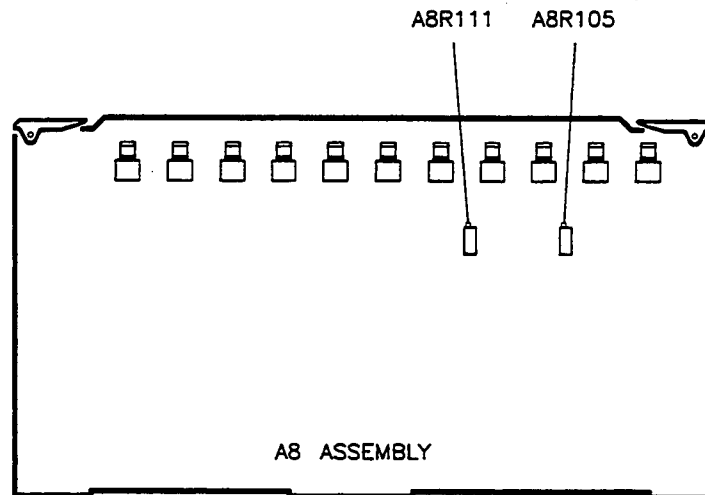

Figure 3-30. A8R111 and A8R105 Adjustment Locations
4. Adjust A8R111 (see Figure 3-30 to center the "needle" on the display).
6. Adjust A9R105 (see Figure 3-30) to center the "needle" on the display.